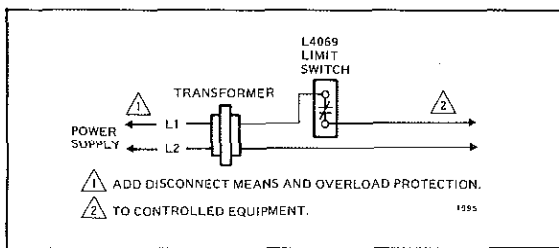

Fig. 4—Typical wiring diagram showing limit switch on low voltage side of forced air or gravity heating system.
3. If stranded wire is used, insert a small screwdriver into the rectangular hole (marked ) on the front of the switch above the round terminal hole; push inward and hold. Insert wire in round terminal hole, and remove screwdriver (see Fig. 4). If solid conductor is used, it may be inserted into the round terminal hole without using a screwdriver.
NOTE: If the limit control is used in a gravity system, or the low voltage side of a forced air system, connect as shown in Fig. 4. Insert wire from the "hot" line into top terminal (marked COMMON) and insert the wire leading to the controlled equipment into bottom terminal hole (marked LOAD).